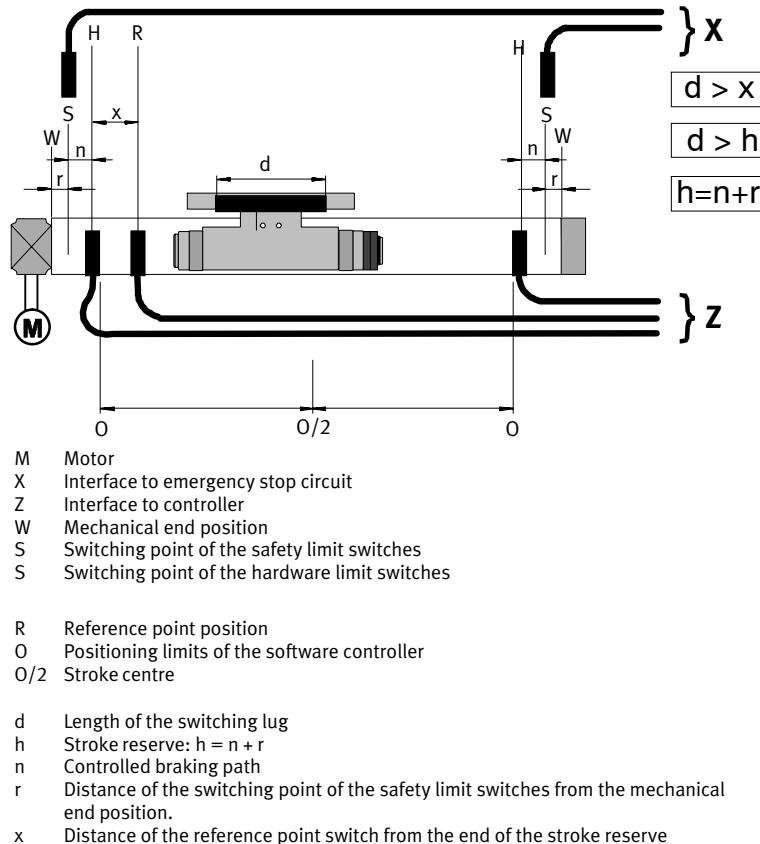

Fig. 38: Schematic distribution of the proximity switches
- Use switching lugs of length d (see Fig. 38).
1. Place the **safety limit switches** in the mechanical end positions (W) as shown in Fig. 38.
1. Push the slide at first into a mechanical end position (W).
2. Position the slide by the stroke reserve h away from the mechanical end position (see also Fig. 38). If necessary, loosen the coupling briefly.
There must be a point at which both the reference point switch as well as the hardware limit switch near the motor respond simultaneously ($x < d$, see Fig. 38).